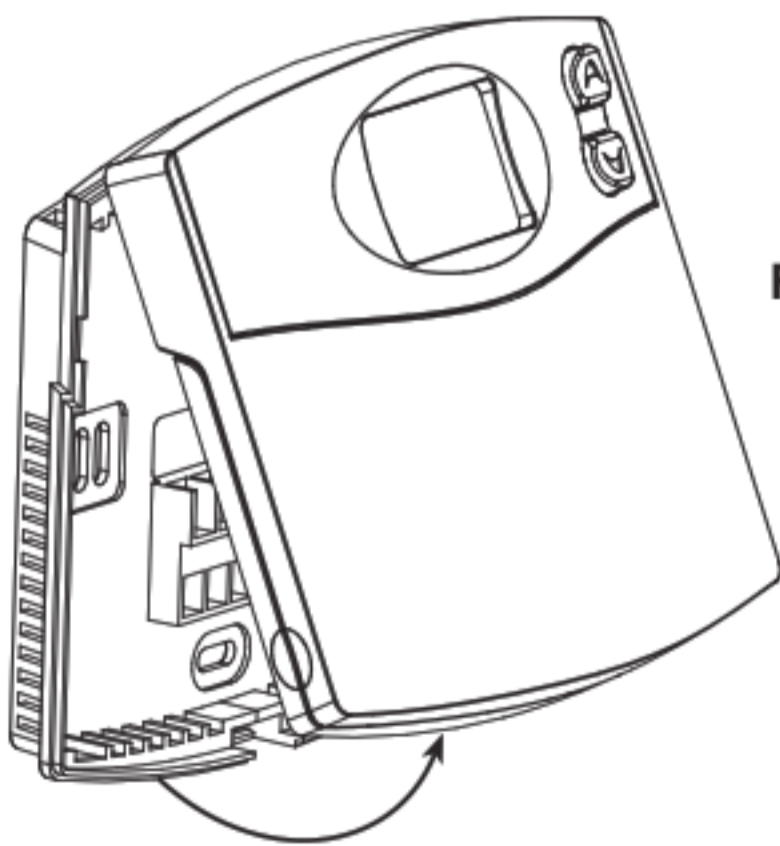

Figure 2
- Remove the wallplate from your thermostat by pressing the release tab on the bottom of the thermostat. See Figure 2.